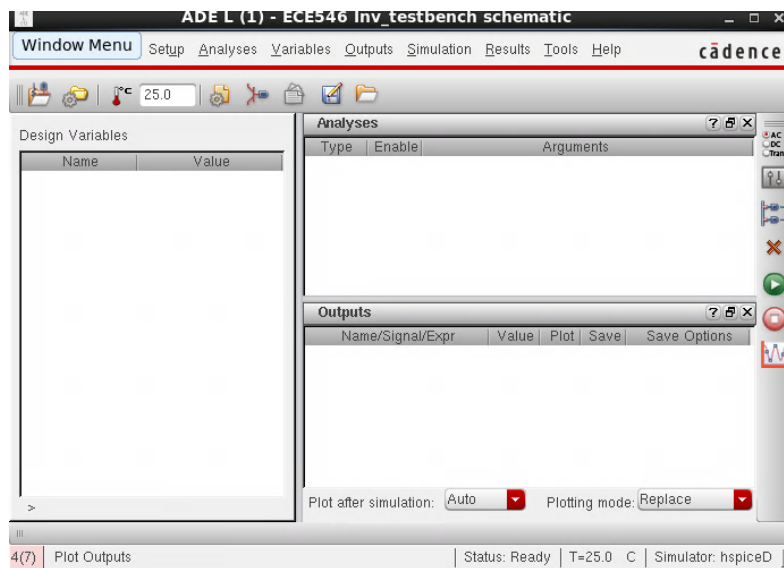

Figure 12. Window view for step 13.
13. The next step is to run a transient simulation with the newly built testbench. From the schematic of the testbench, go to '**Launch->ADE L**'. The ADE L window will appear as shown in Figure 12.